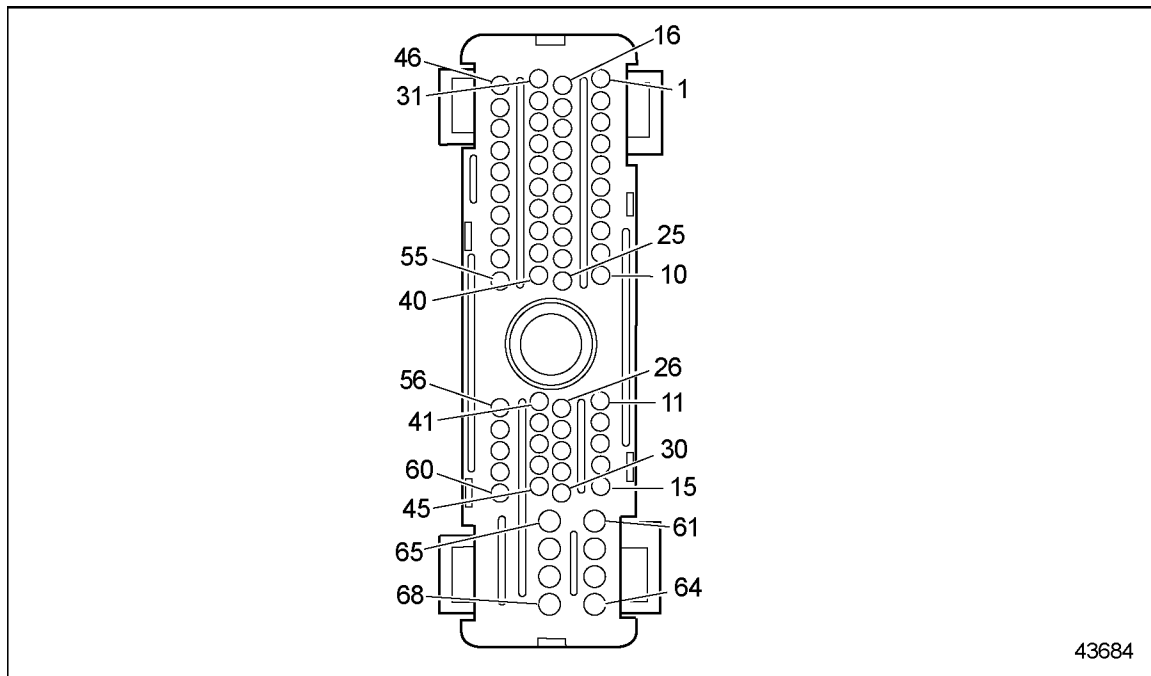

Figure 28-5 ECM/ECU Engine Harness Connector
3. Measure resistance between sockets E-9 and E-14 on the Engine Harness connector. See Figure 28-5.
4. Check terminals at the ECM/ECU harness connector (both ECM/ECU and harness side) for bent, corroded, and unseated pins or sockets. See Figure 28-5.